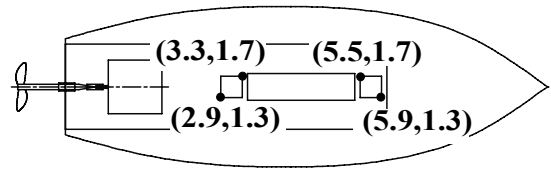

FIG. 13
Step 7. In the Top View, draw the first battery terminal, **Fig. 13**. Start the rectangle with a click at coordinates **(3.3, 1.7)** and move the cursor to stretch the rectangle to coordinates **(2.9, 1.3)** and click.
Step 8. Draw the second battery terminal, **Fig. 13**. Start the rectangle with a click at coordinates **(5.5, 1.7)** and move the cursor to stretch the rectangle to coordinates **(5.9, 1.3)** and click.